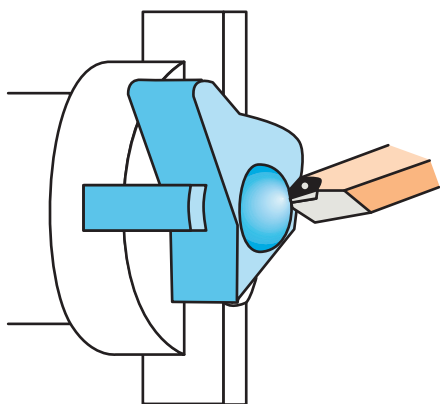

Figure 17-70 Turning the dome shape.
3. Using a face plate or fixture, the CNC lathe could accomplish this with ease simply performing circular interpolation while rotating the part (Fig. 17-70). There are two mill options: